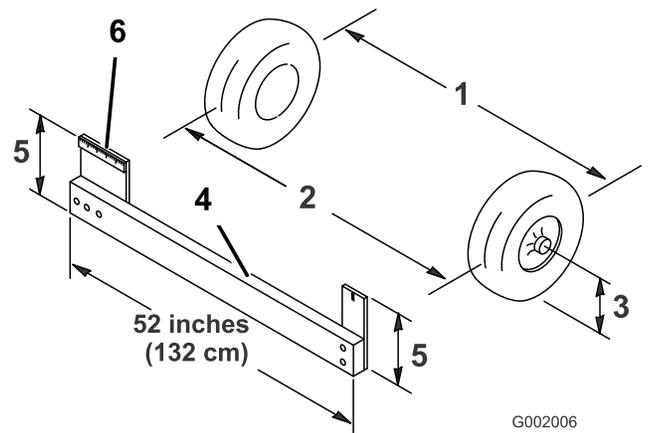

Figure 33
4. Measure the distance between both of the front tires at the axle height at both the front and rear of the front tires (Figure 33).
Note: A fixture or alignment gauge is needed for the rear measurement of the front tires at axle height. Use the same fixture or alignment gauge to accurately measure the front of the front tires at axle height (Figure 33).